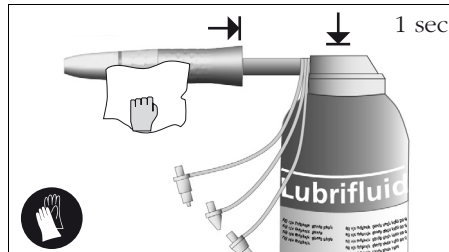

fig. 5
- Spray for about 1 second **fig. 5**.